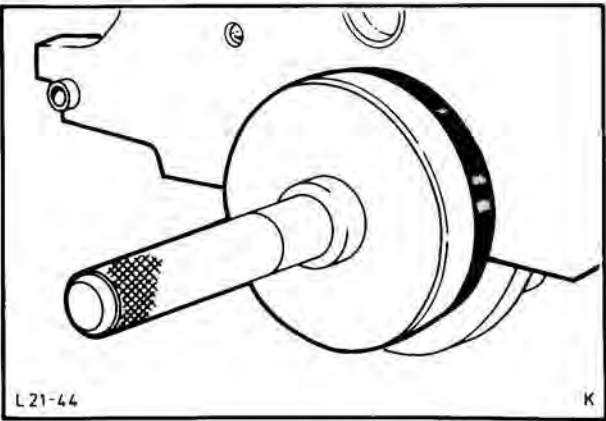

Fig. 101. Fit rear oil seal using Special Tool 21-011-A
35. Moisten sealing lip of new rear oil seal. Slide new oil seal onto Special Tool 21-011-A and press firmly against rear main bearing, Fig. 101.